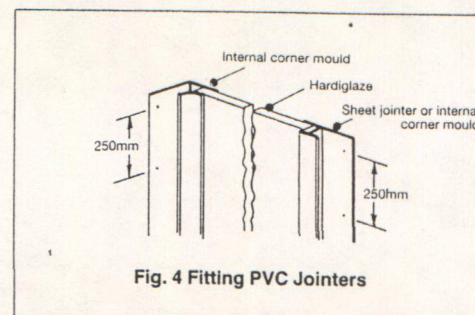

Fig. 4 Fitting PVC Jointers
- Fit PVC sheetholders to both sides of the Hardiglaze sheet. (Refer Fig. 4)